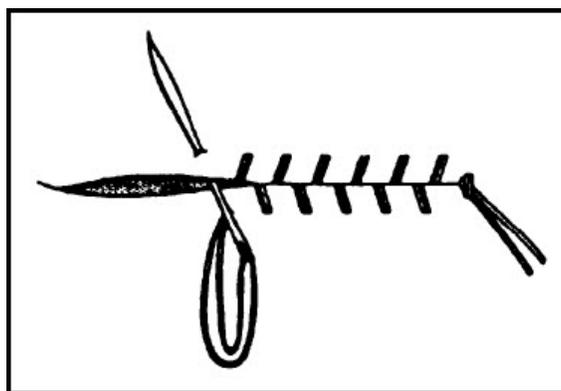

Figure 3-18 Baseball stitch
- **Baseball stitch.** The baseball stitch is used to mend tears in light and medium canvas. Figure 3-18 shows how it is done. Keep enough tension on the thread to remove all loops and slack thread. Do not apply too much tension, however, because this tends to pucker or draw the seam out of line.